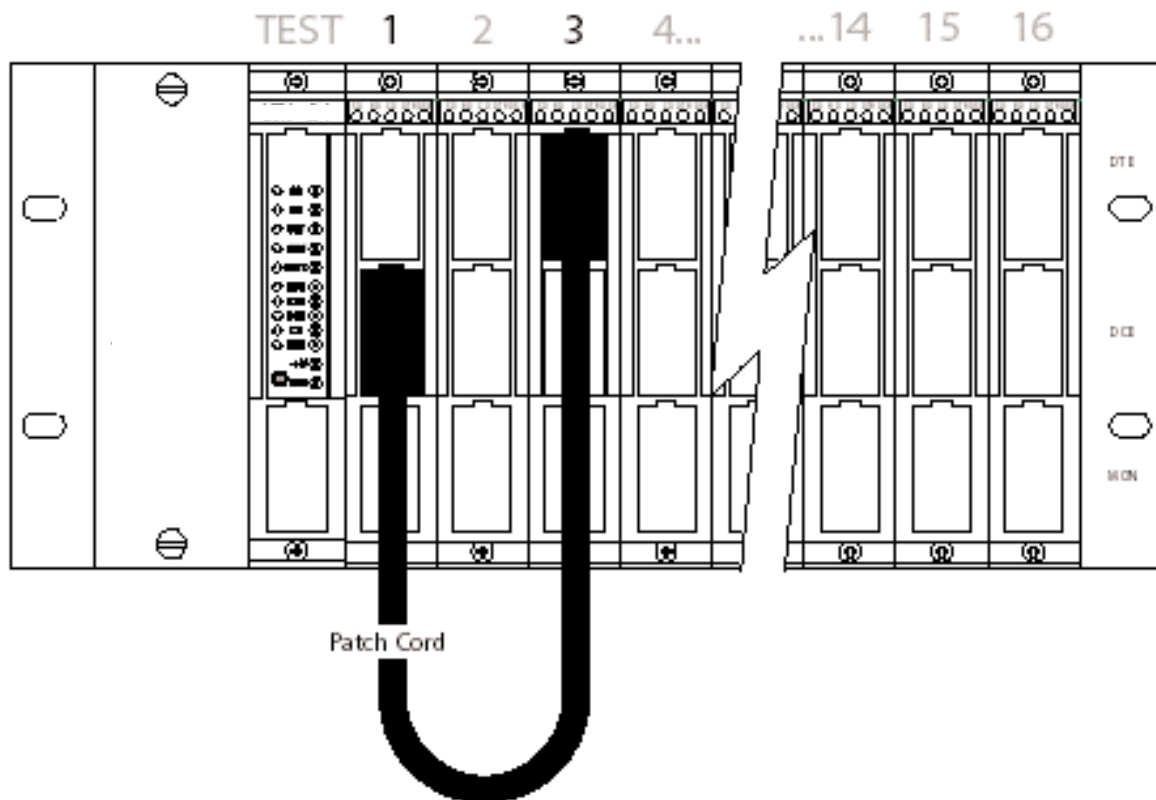

Figure 5-1. Patch cord connection.
2. Connect the opposite end of the same patch cord to the second patch module's DTE patch cavity (see Figure 5-1).